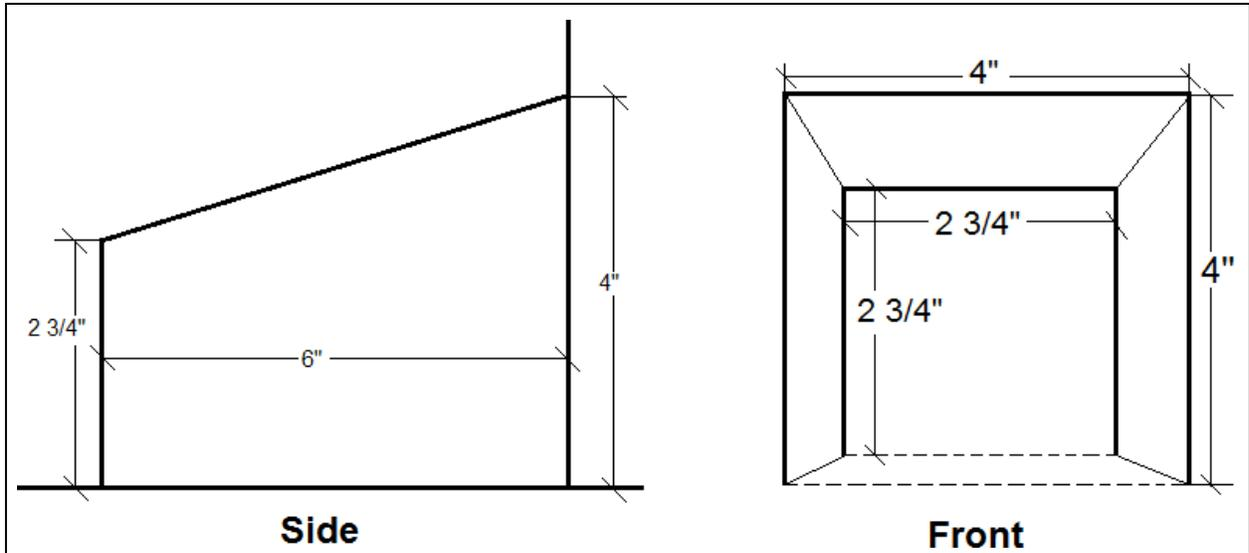

Figure 1-12
6. Construct six (6) funnels using the  $\frac{1}{2}$ " by  $\frac{1}{2}$ " hardware cloth. Each funnel to be cut to 6" in length. One end will be  $2\frac{3}{4}$ " x  $2\frac{3}{4}$ " and the other end will be, 4" x 4" (Figure 1-12).